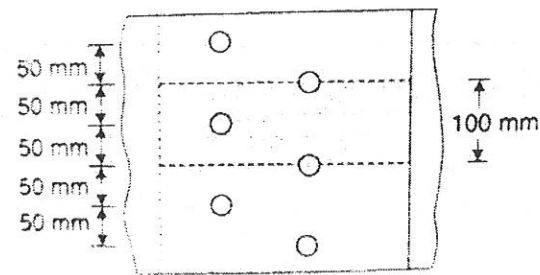

Fig. 1
12. (a) Determine the strength and efficiency of the lap joint shown in Fig.1. The bolt are 20mm in diameter and of grade 4.6. Two plates to be joined are 10mm and 12mm thick. The steel grade is Fe410.